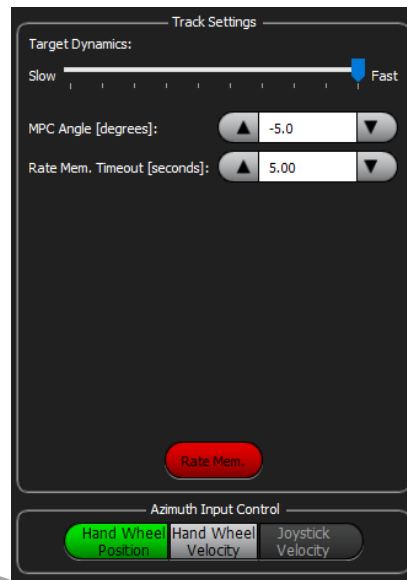

Figure 27: Track Settings Window
1. On the Axis Control window, click on the gear button located to the right of the track button, and open the Track Settings window, as shown in Figure 27.